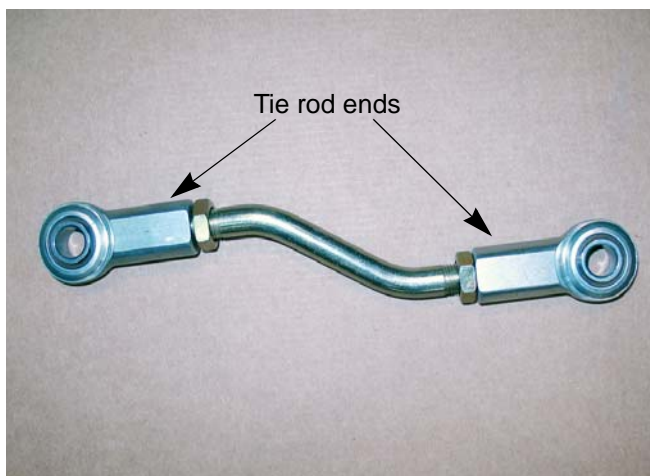

Figure 6.93
8. Remove the tie rod ends. See Figure 6.93.